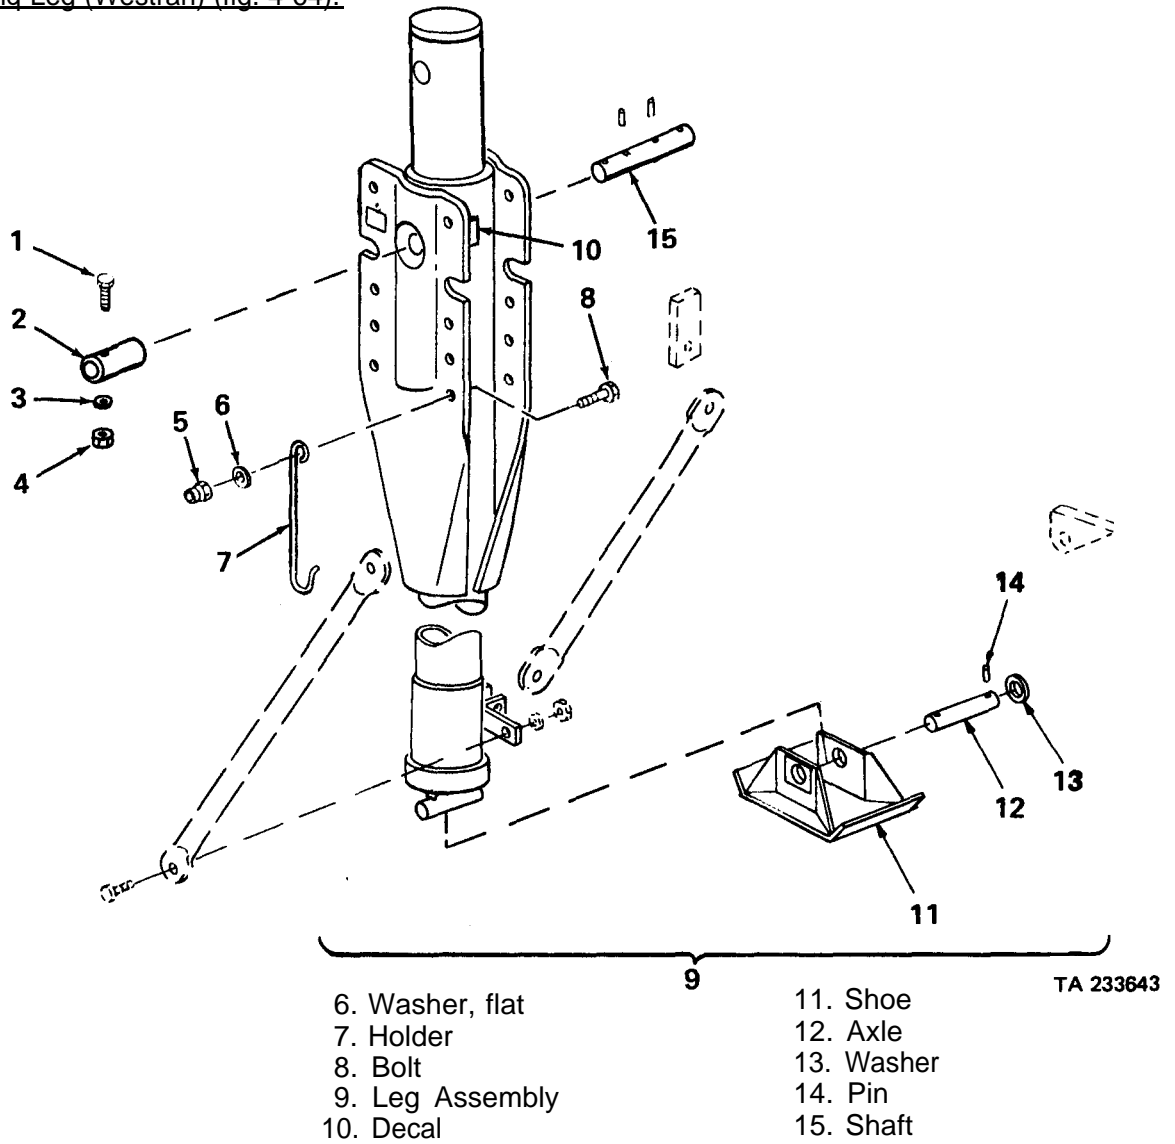

Figure 4-64. Landing leg disassembly and reassembly (Westran)
e. Repair of Landing Leg (Westran) (fig. 4-64).
- (1) Inspect for cracks, dents, holes, broken parts and warps.
- (2) Inspect for loose, missing or damaged hardware.
- (3) Inspect for rust, corrosion and marred paint.
h. Reassembly of Landing Leg (Westran) (fig. 4-64).
- (1) Install shoe (11) and axle (12) to landing leg with two pins (14) and two washers (13).
- (2) install holder (7) with bolt (8), nut (5) and washer (6).
- (3) Install coupling (2) with bolt (1), nut (4) and washer (3).